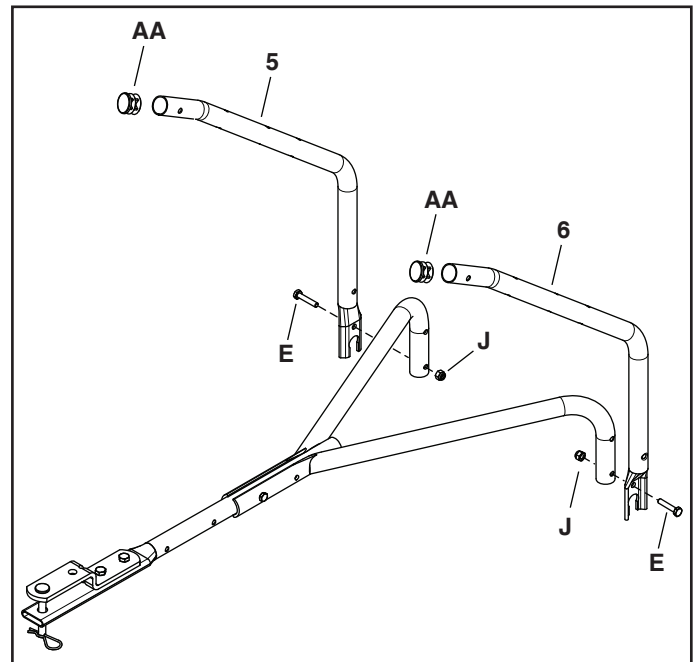

FIGURE 3
STEP 3: (SEE FIGURE 3)
- Insert plugs (AA) into the ends of the hopper support tubes (5) and (6).
- Attach hopper support tube (5) and hopper support tube (6) to the hitch support tubes as shown, using two 1/4" x 1-1/2" hex bolts (E) and 1/4" nylock nuts (J). **Do not tighten completely.**